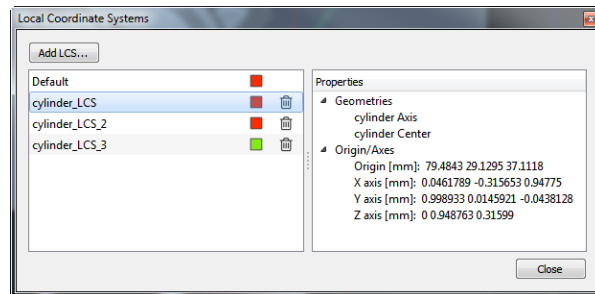

Figure 16.19: The LCS Manager
- An access to the LCS Manager (*Manage LCS...*) which allows all LCS related actions (creation, deletion, renaming, display of the LCS characteristics). See Figure 16.19.